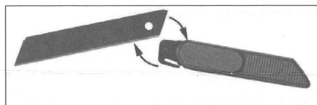

Fig. 4
b) Pull out the spare blade holder (4) and take the blade. Place a the blade on the slider (Fig. 4).
c) Insert the blade with the slider and the spare blade holder (4) carefully back into the blade guide rail and push the end cap (3) back into the housing.